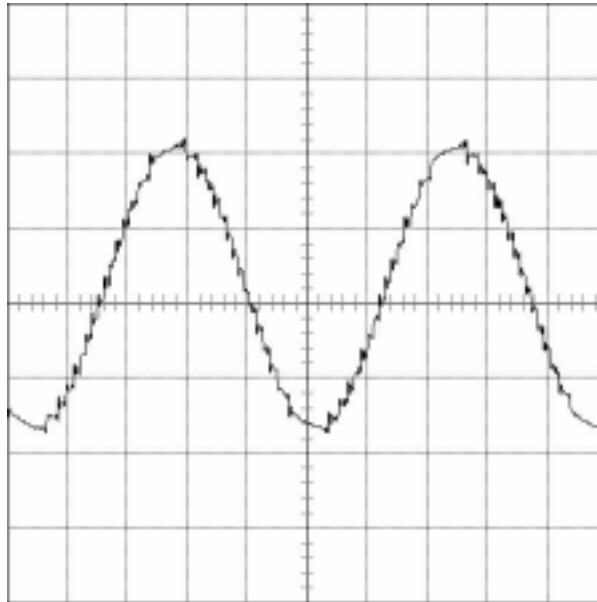

Fig.3: Waveform
5.1. Check that the waveform from the OUTPUT L/MONO is normal (see Fig.3). Observe for a 2sec.
5.3. Check that the waveform at the OUTPUT L/MONO is normal (see Fig.3). Observe for a 2sec.